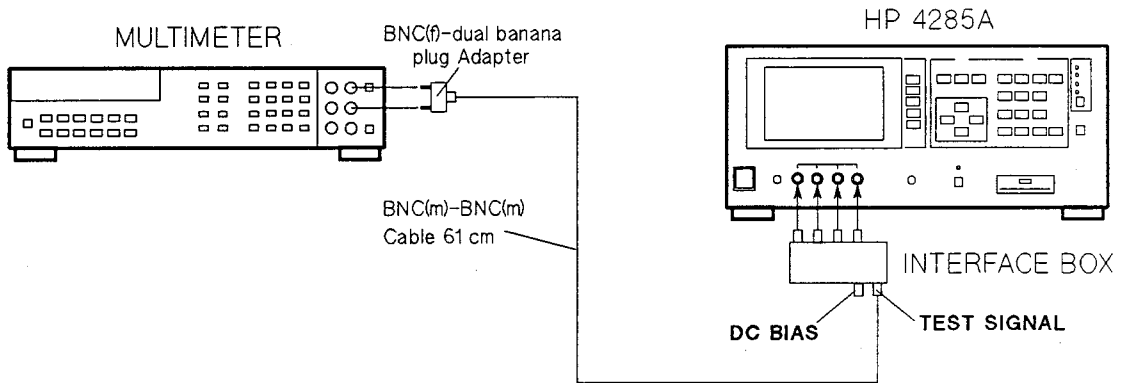
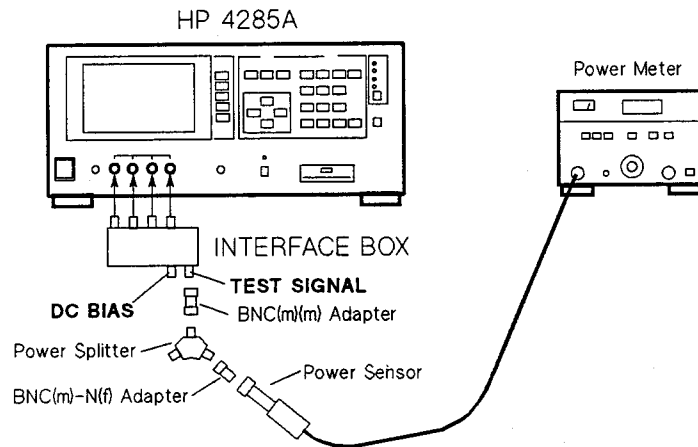

Figure 2-14. Test Signal Level Monitor (LF) Adjustment Setup
Figure 2-15. Test Signal Level Monitor (HF) Adjustment Setup
4. Perform the Test Signal Level Monitor Adjustment according to the program instructions. Figure 2-14 shows the Low Frequency Adjustment setup. Figure 2-15 shows the High Frequency Adjustment setup.